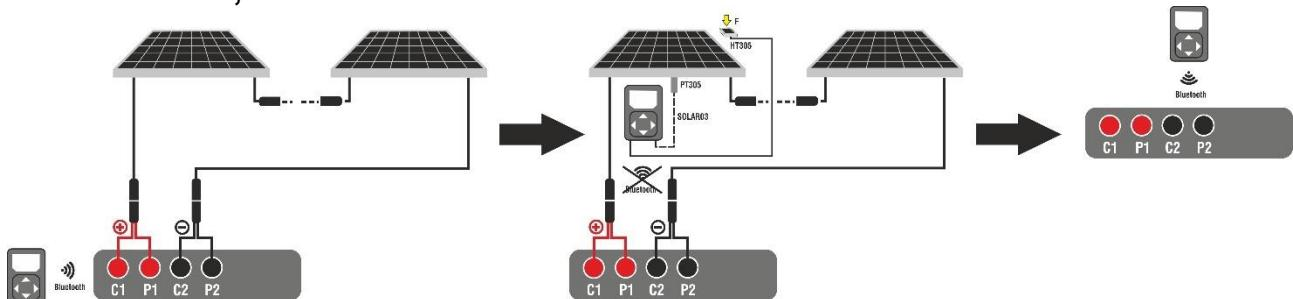
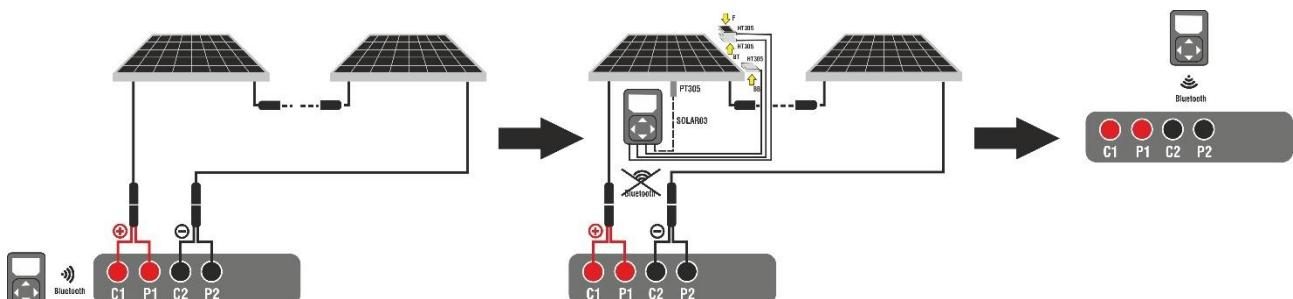

Fig. 69: Connection with SOLAR03 in synchronous recording on Monofacial modules
Fig. 70: Connection with SOLAR03 in synchronous recording on Bifacial modules
2. Connect the instrument to the module/string being tested as shown in Fig. 69 (Monofacial modules) or Fig. 70 (Bifacial modules). In detail, connect the negative pole output of the module/string to terminals **P2, C2** and the positive pole output of the module/string to terminals **P1, C1**
3. Move the SOLAR03 remote unit close to the instrument as shown in Fig. 69 or Fig. 70 – left side part
8. **Move the remote unit close to the modules** and connect the irradiance and temperature probes (if necessary) as shown in Fig. 69 or Fig. 70 – middle side part. In particular:
18. **At the end of the test session**, disconnect the SOLAR03 remote unit, place it close to the instrument (see Fig. 69 or Fig. 70 – right side part) and check that it automatically reconnects to the instrument